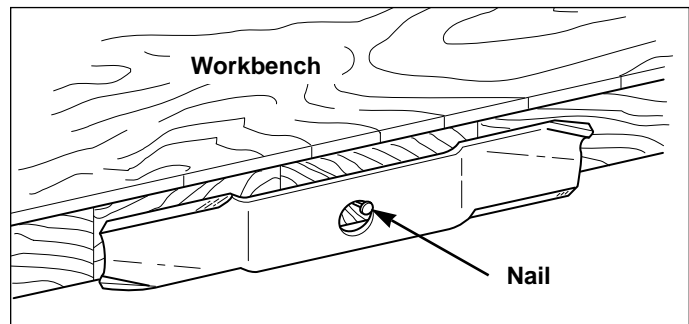

Figure 24. Balancing The Blade
5. Balance the blade as shown in Figure 24. Center the blade's hole on a nail lubricated with a drop of oil. A balanced blade will remain level.